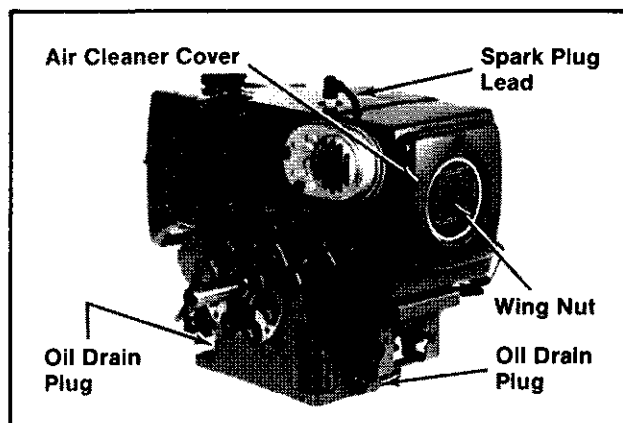

Figure 10A-1. Removing Spark Plug Lead, Oil Drain Plug, And Air Cleaner Cover
1. Remove the wing nut and air cleaner cover. Refer to Figure 10A-1.